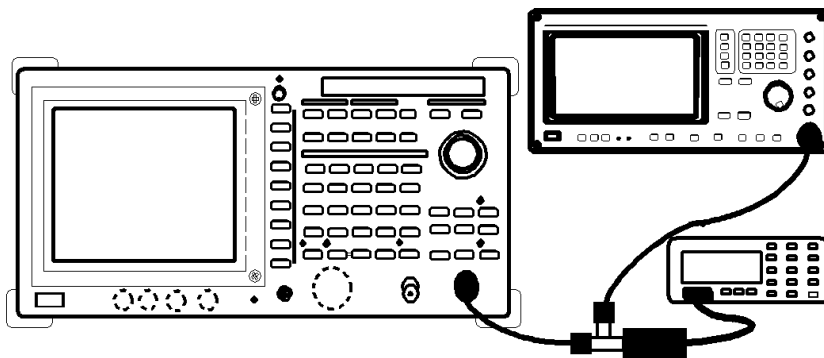

Figure 1-7 Setup for Measuring a Frequency Response
3. Connect the signal generator as shown in Figure 1-7.